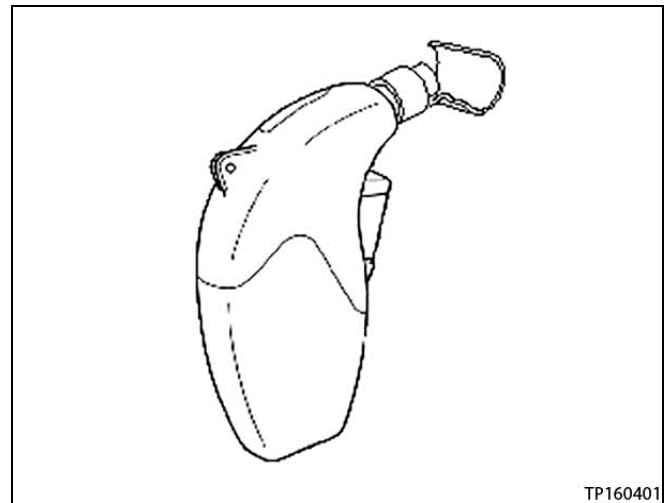

Figure 18
17. "Install" the solder sleeve connector by shrinking it to the ORANGE wire with essential tool Flameless Heat Gun J-46538 or similar flameless heating tool (see Figure 18 and 19).